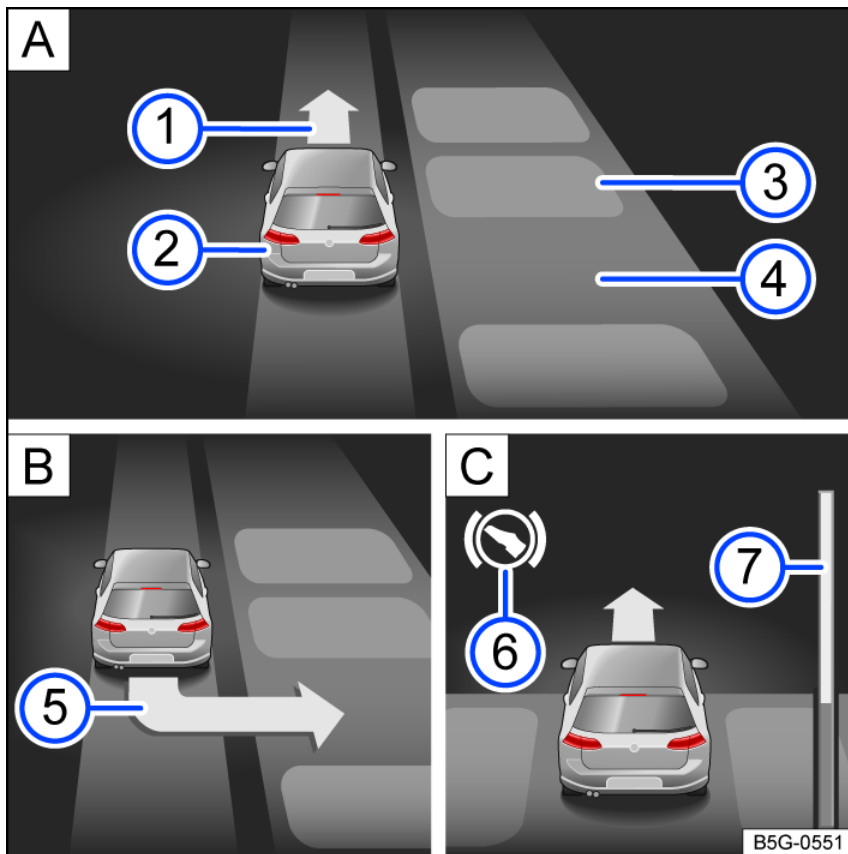

Fig. 157 In the instrument cluster display: parking perpendicular to the road.
2. Pay attention to the prompt for parking in the instrument cluster display fig. 157 5.